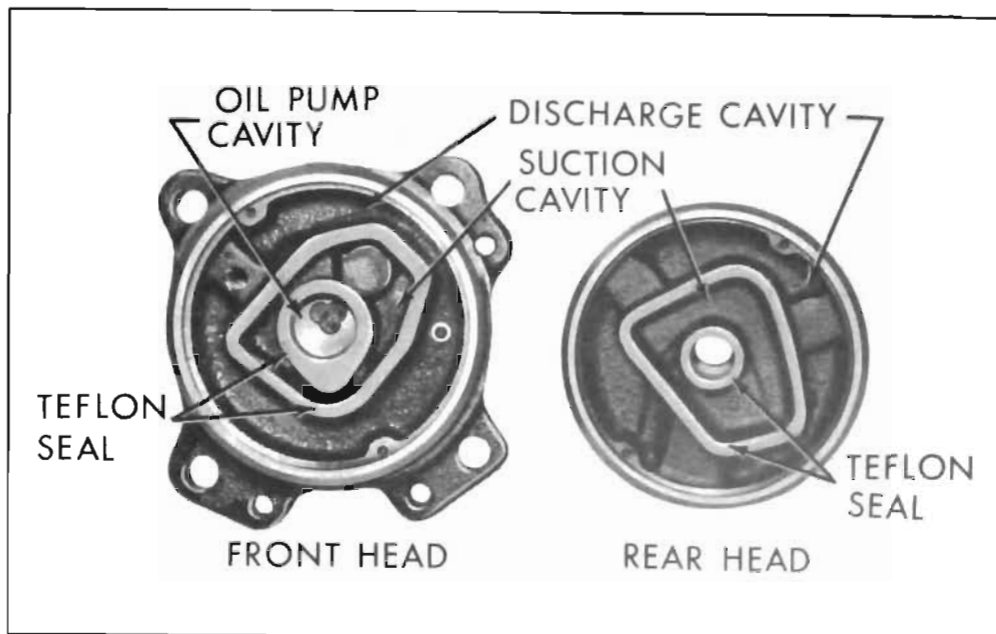

Figure 11-31—Compressor Front and Rear Heads
2. Front and Rear Heads—The front and rear heads (Figure 11-31) serve to channel the refrigerant into and out of the cylinder heads. The front head is divided into two separate passages and the rear head is divided into three separate passages. The outer passage on both the front and rear heads channels low pressure gas to the suction valve reeds. The middle passage on both front and rear heads channels high pressure gas to the discharge valve plate reeds. The inner passage on the rear head houses the oil pump inner and outer rotors. A teflon sealing material is bonded to the sealing edges separating the passages in the front and rear head. "O" rings are used to affect a seal between the mating edges of the heads and the shell. The front head suction and discharge passages are connected to the suction and discharge passages of the rear head by a discharge tube and suction passage in the body of the cylinder assembly. A screen located in the suction port of the rear head prevents foreign material from entering the circuit.